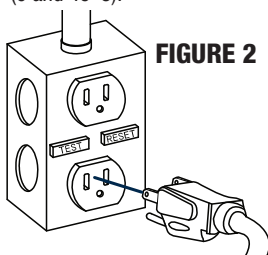

FIGURE 2
- Connect the plug into a 115 V AC grounded outlet. The use of a GFCI is strongly recommended. See figure 2.